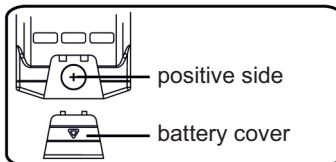

fig. 1
1. Insert the CR2032 battery into the gage, with the positive side facing out (see fig. 1).